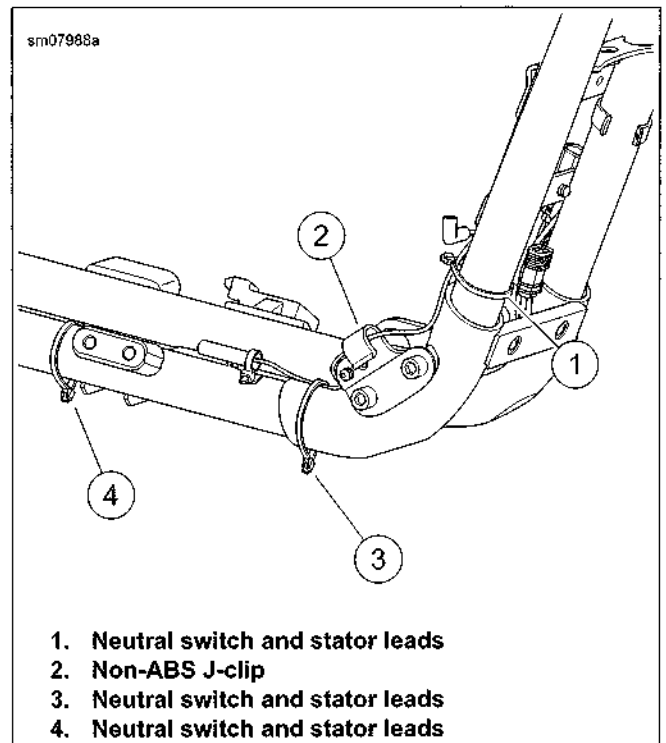

Figure 3-13. Lower Right Frame Tube Cable Straps
- k. See Figure 3-13. Install lower right frame tube cable straps.